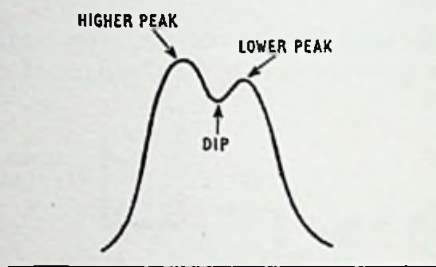

Fig. 10.10—If a double peak like this is obtained when adjusting the core of an i.f. transformer, higher gain will be achieved by selecting the higher peak
6. In aligning the i.f.s, note that some transformers will give a double peak. This means that, as the adjustment screw or core is turned, the output meter will reach a peak, dip and then reach a second peak. The higher of the two peaks is the correct one (Fig. 10.10). This completes the i.f. alignment.